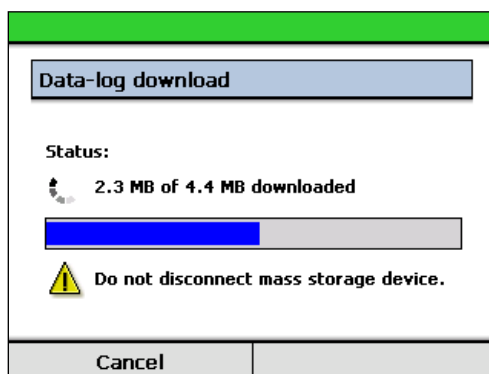

Figure 36 Data-Log Download in Progress
- 3] To begin the download, press the 'Start download' context button. The progress of the download will be shown on screen as per Figure 36. The download may take several minutes depending on the number of files currently stored.